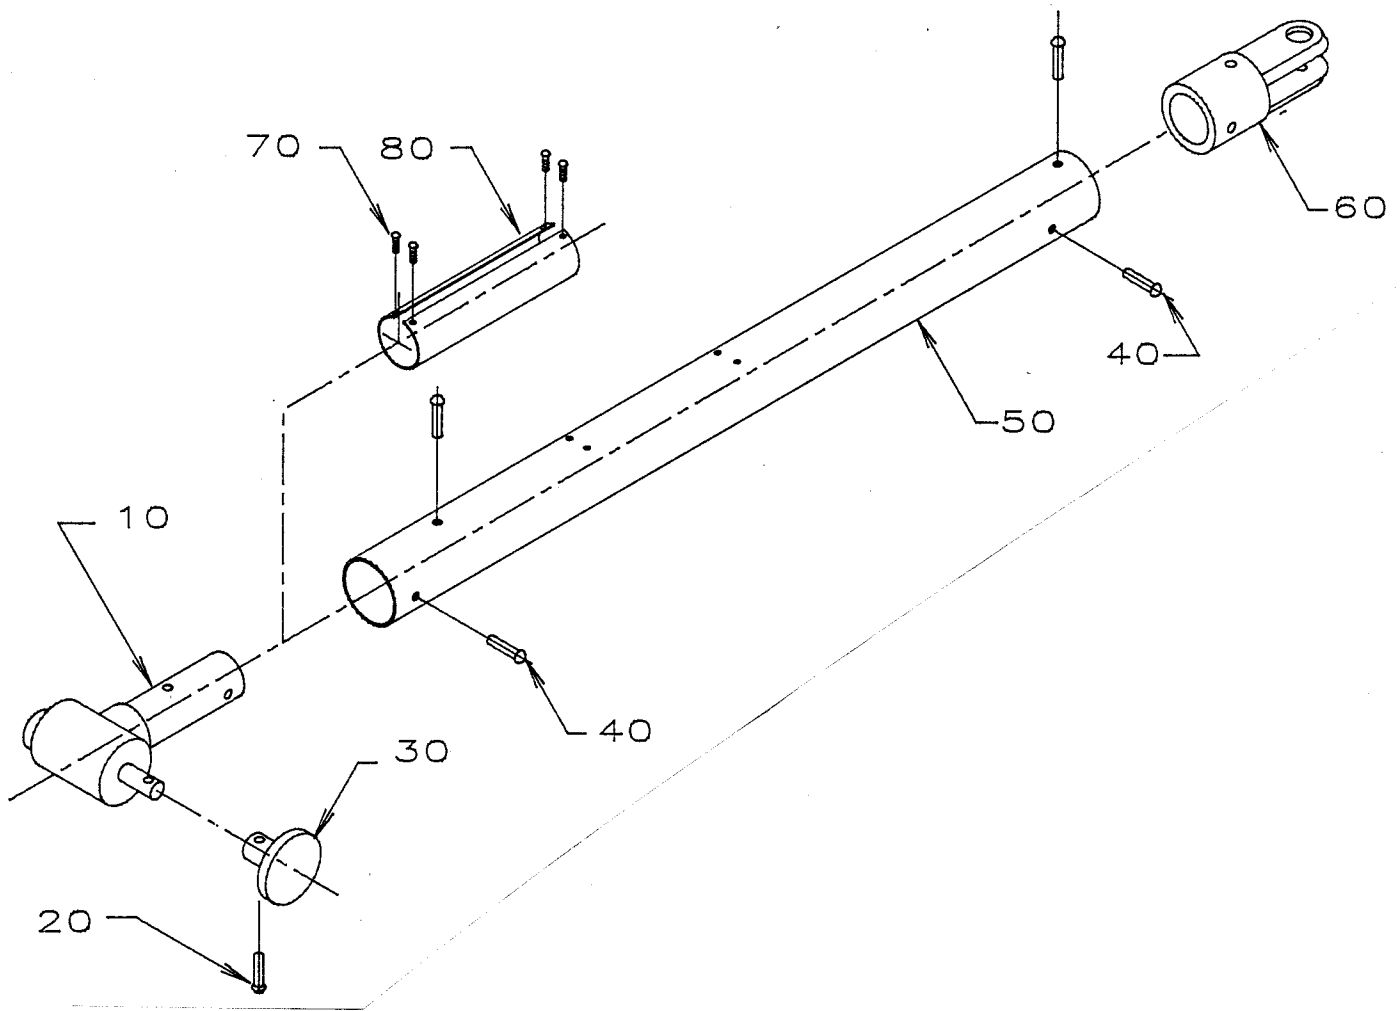

FIGURE 1 - TYPICAL A2711 STRUT ASSEMBLY
- A. Drill out two (2) of four (4) MS20613-4C14 rivets, item 40, shown in Figure 1. Select one rivet on each end of the tube (50). Drill through the undeformed rivet head using a 0.125 inch (3.175 mm) diameter drill. Remove the remaining part of the rivet with a 0.125 inch (3.175 mm) diameter punch.
- B. Drill out two (2) rivet holes to 0.166 inch (4.216 mm) using a No. 19 drill. Insert two (2) hex drive bolts, 135C0162-01, in the drilled out holes. Thread on two (2) collars, 130A0164-01, and tighten using a 0.3125 inch (7.94 mm) wrench until the end of the collar shears off. Torque to shear off should be 15 - 25 in. lbs.
- C. Repeat Steps A and B for remaining two (2) rivets.